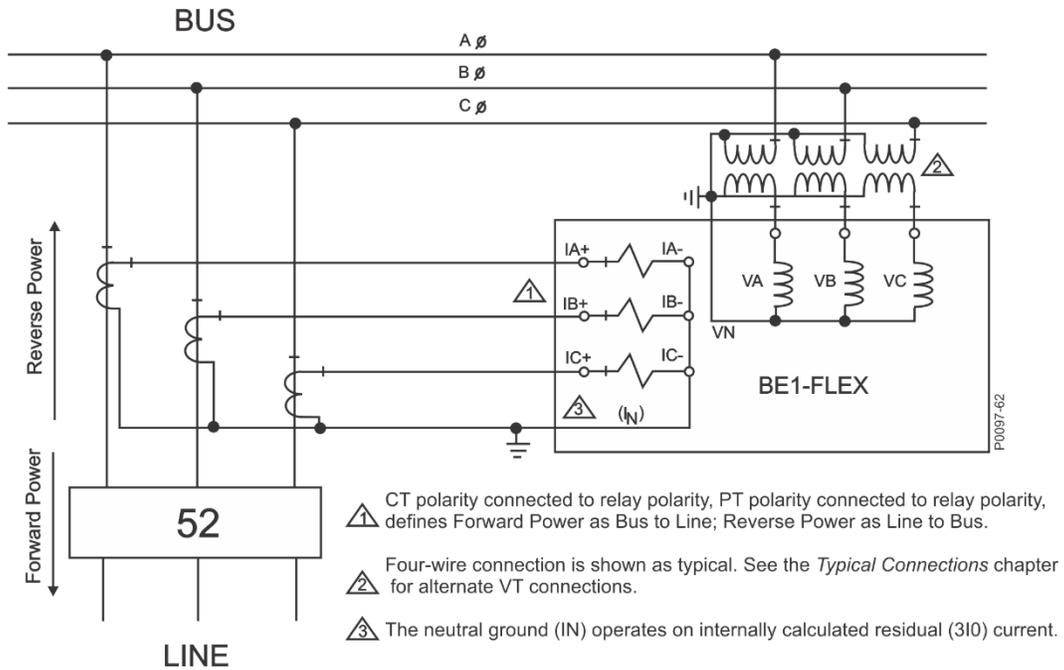
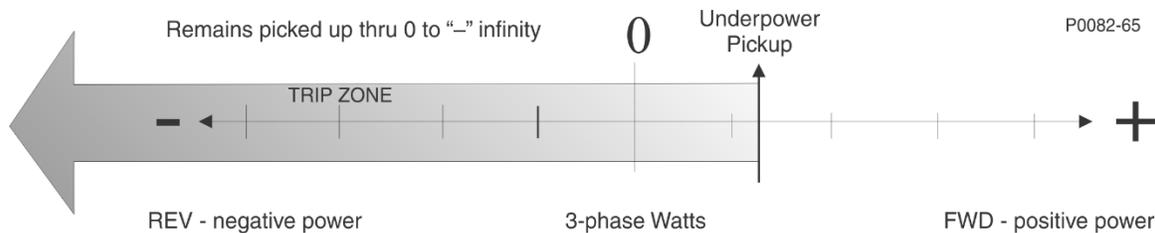

Figure 20-1. Direction of Power Flow Defined by the Polarity of Voltage and Current Connections
Figure 20-2. Forward and Reverse Pickup Values
In addition to exceeding the power pickup threshold, direction of power flow (forward or reverse) must match the directional setting for the 32 element to operate. In the BE1-FLEX, the forward and reverse directions are defined by the polarity voltage and current connections to the BE1-FLEX as shown in Figure 20-1. Based on IEEE polarity convention, forward power is defined as bus to line and reverse power is defined as line to bus.
Three-phase power pickup settings for the power elements are always positive regardless of the directional setting. However, it is useful in understanding the element response to visualize the forward direction as positive power and the reverse direction as negative power. If we think in terms of a forward and reverse scale with zero (0) in the middle as shown in Figure 20-2, positive and negative power flows relative to the forward and reverse directional setting. For example, assume an intertie application where the Area EPS (electric utility) requires the Local EPS (source of non-utility generation) to separate from the Area EPS (trip the intertie breaker) if any power flows towards the Area EPS. For illustrative purposes, assume that the BUS in Figure 20-1 is the Local EPS, 52 is the intertie breaker, and LINE is the Area EPS. Normal power flow is from the Area EPS to the Local EPS, which happens to be an industrial facility with local generation used for peak shaving.
Assuming polarity current and voltage connections as shown in Figure 20-1, forward power is defined as flowing into the Area EPS and reverse power is defined as flowing into the Local EPS. For this application, the 32 element should be set to trip for minimum underpower in the reverse direction (to the Local EPS). Therefore, the settings would be Reverse, Under, and 1 watt. To increase sensitivity, mode selection should be three of three, which requires each phase power to fall below one-third of the three-phase power setting or 0.33 watts. Assume that the normal power absorbed by the load is 4 kW in the reverse or negative direction on our scale. If load is suddenly lost at the industrial plant while the peak shaving generation is running, power may flow towards the area EPS depending on the load to generation ratio. What was a negative 4 kW passes through 0 watts on its way to some positive power level. However, in doing so, passes through the negative underpower trip threshold of Reverse, Under, 0.33 watts/phase, resulting in a 32 trip and opening of the intertie circuit breaker. From negative 0.33 to positive infinity, the 32 element remains in a picked up condition as shown in Figure 20-2. A trip time delay should be included to ensure that the 32 element does not operate for a transient power condition.